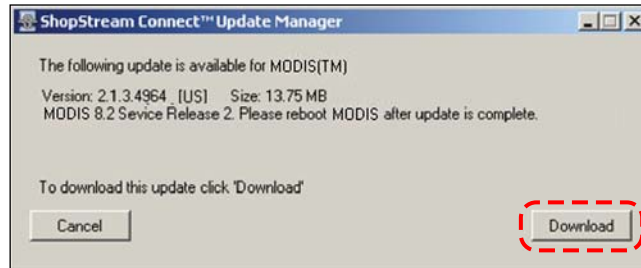

Figure B-13 Sample update available screen
- b. If an upgrade is available, an updates found message displays (Figure B-13). Select **Download** to begin the upgrade process and continue to Step 6.